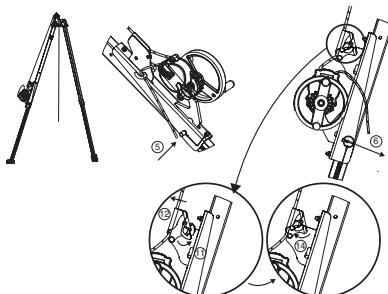

Fig. 9
**IMPORTANT:** Please pay attention to the assembly direction: the halyard blocker must be directed toward the top of the tracpole tripod (Fig. 9).
5. Insert the derope™ UP R console locking pin. This locking pin fulfils two functions: locking the foot of the tracpole tripod and docking the derope™ UP R console onto this leg (Fig. 9, 5).
6. Lock-off the docking pin with the split-pin (Fig. 9, 6).
11. Open the halyard clamp in the console (Fig. 9, 11).
12. Insert the halyard coming out of the derope™ device into the halyard clamp on the console (Fig. 9, 12).
14. Close the halyard clamp in the console (Fig. 9, 14).